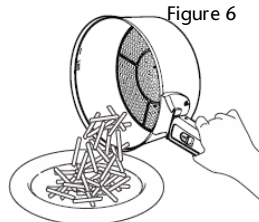

Figure 6
3. Check that your foods are ready. If not, then place the Basket (13) back into the Pan (12) and set the timer for a few more minutes.
4. Empty the contents of the Basket (13) into a bowl or onto a plate. (See Figure 6) If necessary, you can also use Tongs to remove foods from the Basket (13).